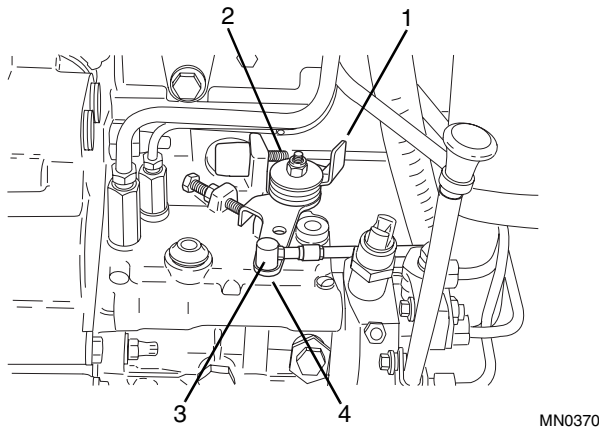

Figure 7-75 Injection Pump Lever
4. Move the injection pump throttle lever (Fig. 7-75, 1) so it contacts the high-speed stop screw (2).
5. Adjust the cable if necessary, by turning the cable rod end (Fig. 7-75, 3) in the appropriate direction to align it with the hole in the injection pump throttle lever (4).